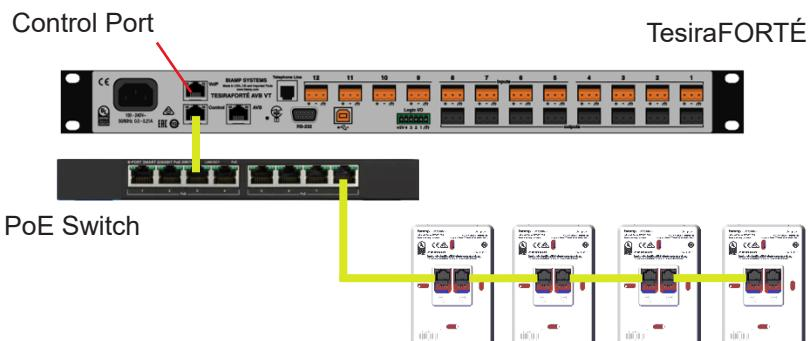

Figure 8. Basic Network Layout
- The Tesira software allows for multiple pages each with unique icons, text, button color, etc. Figures 8 and 9 show examples of color and layout.